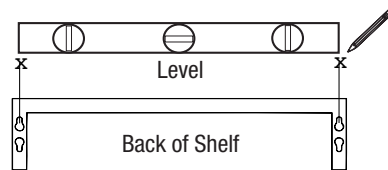

Figure 1
STEP 1: Select installation areas and mark the keyhole locations on wall the correct distance apart. Use a level to make sure the ledges will be straight, as shown in **Figure 1**.